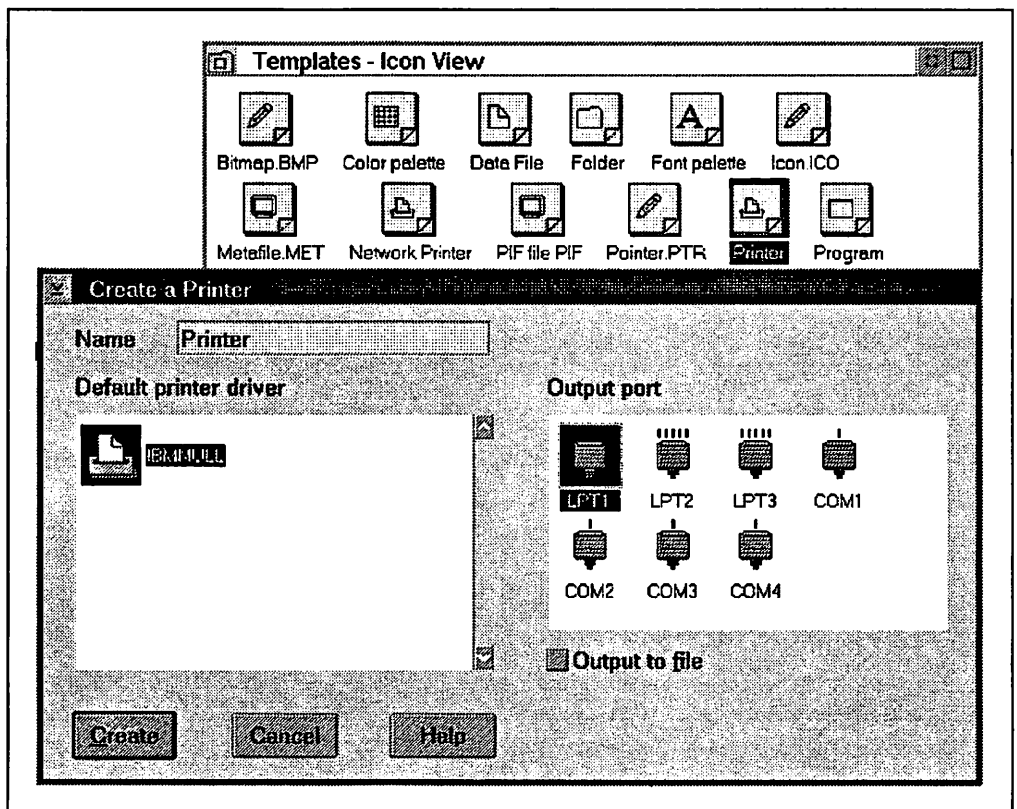

Figure 2. Creating a Printer Object from the Template Folder
3. This brings up the **Create a Printer** dialog (see Figure 2 on page 7)